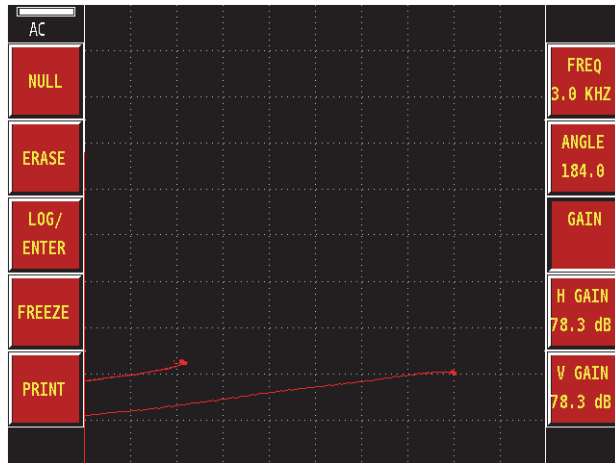

Figure 4-11
21. Place probe on position 1 and null the probe, and then place the probe on position 2 (see Figure 4-11 on page 85).